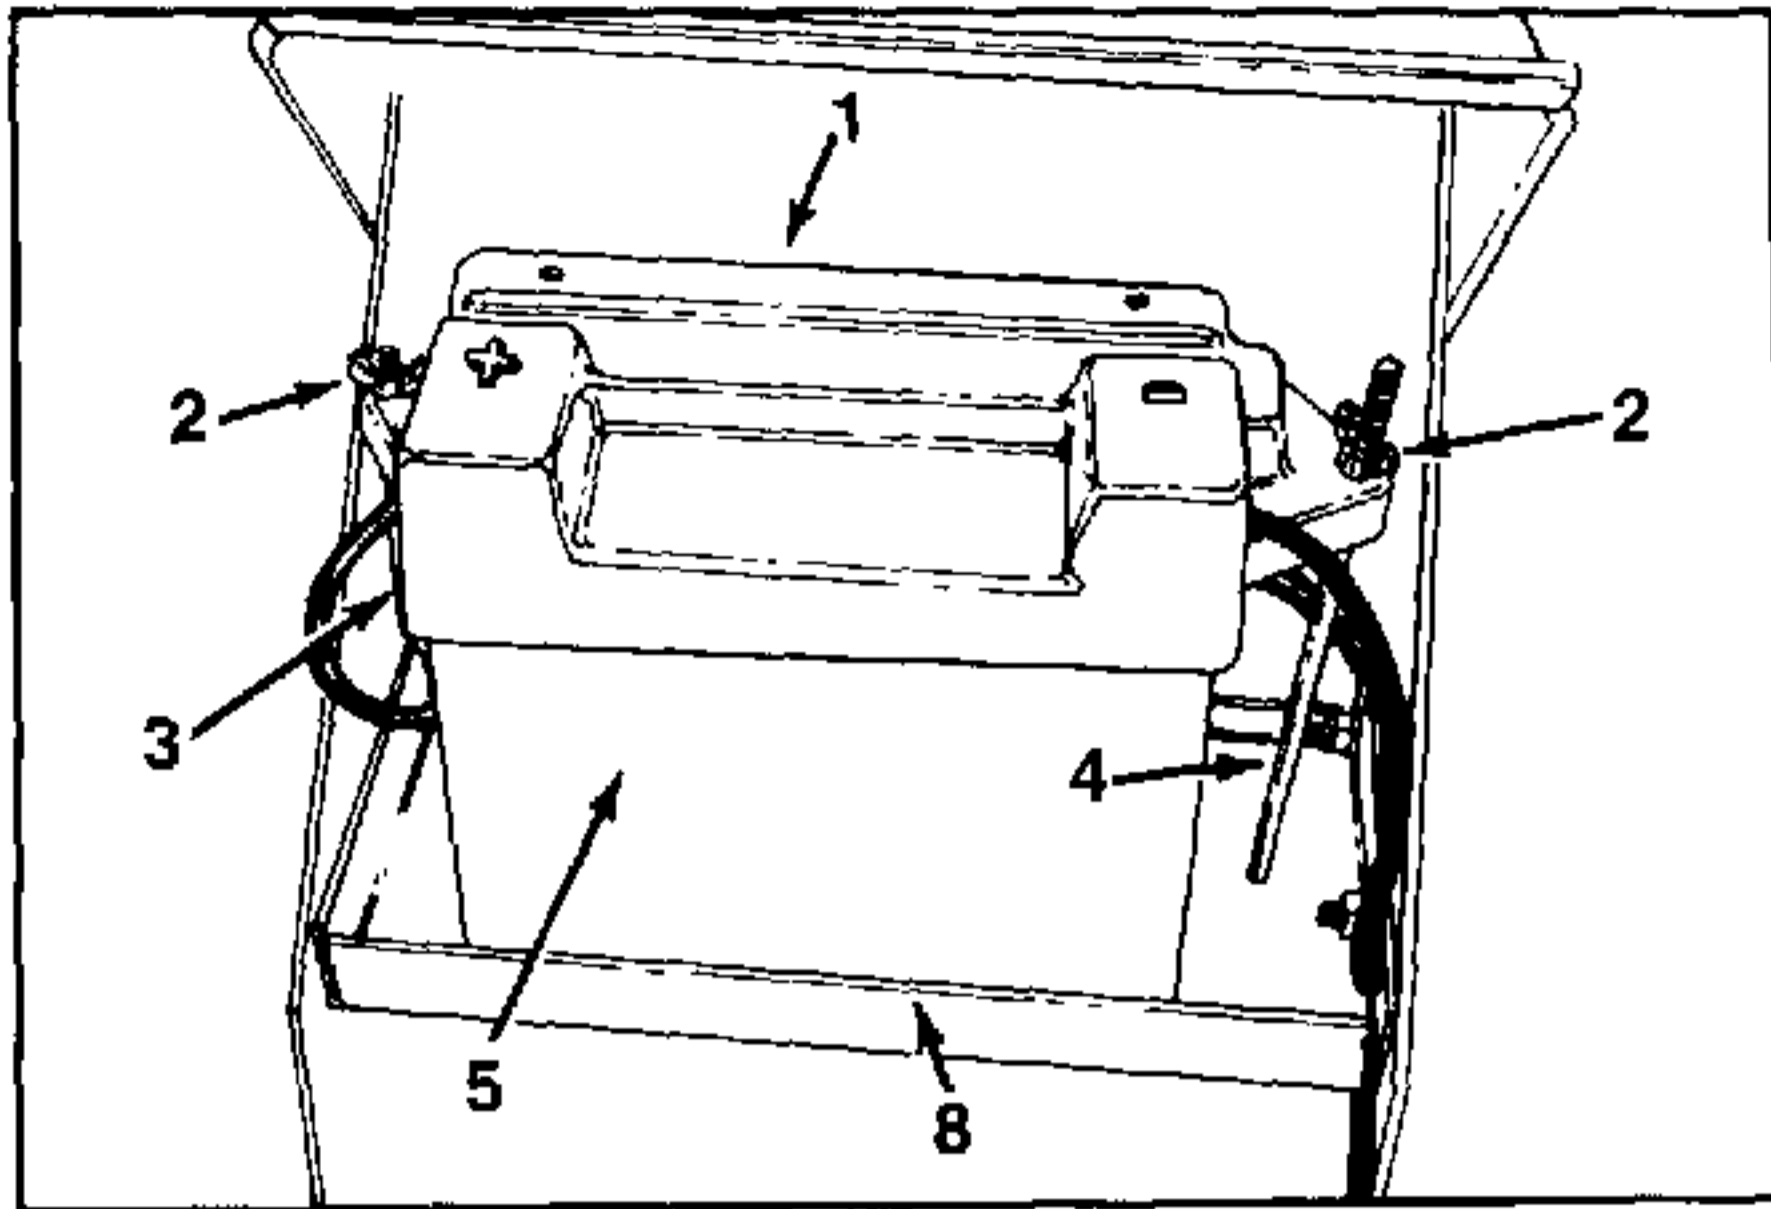

FIGURE 1.
1. Remove the battery cover (Ref. 1), wing nuts (Ref. 2) and battery hold down rods (Ref. 3 and 4). See figure 1.